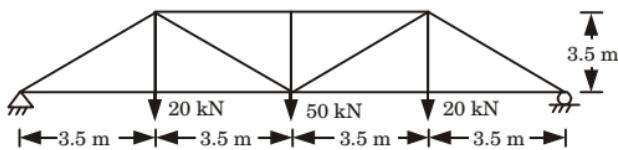

Fig. 2.7.1.
**Que 2.7.** Analyze the truss shown in Fig. 2.7.1.
$$\text{From Fig. 2.7.1, } \tan \theta = \left( \frac{3.5}{3.5} \right)$$